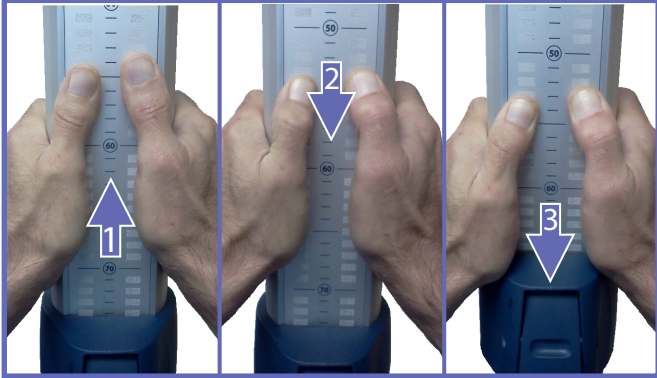

Fig. 17
- 5) Referring to “Fig. 17”, grab the upper portion of the post with both hands (1) and raise it about 5 mm to remove the pressure on the collar.